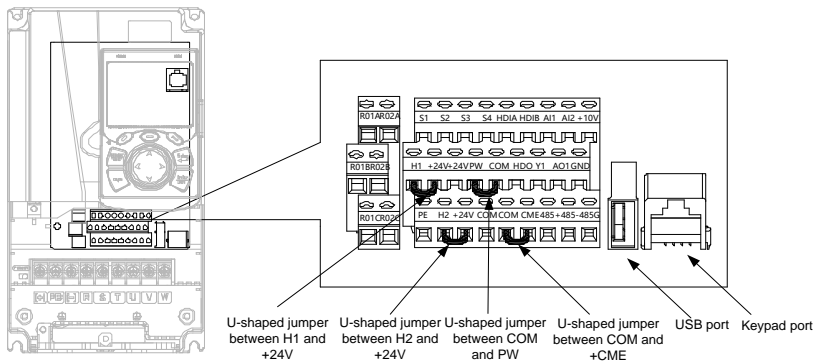

Figure 4-23 Position of U-shaped jumper
**Note:** As shown in Figure 4-23, the USB port can be used to upgrade the software, and the keypad port can be used to connect an external keypad. The external keypad cannot be used when the keypad of the VFD is used.